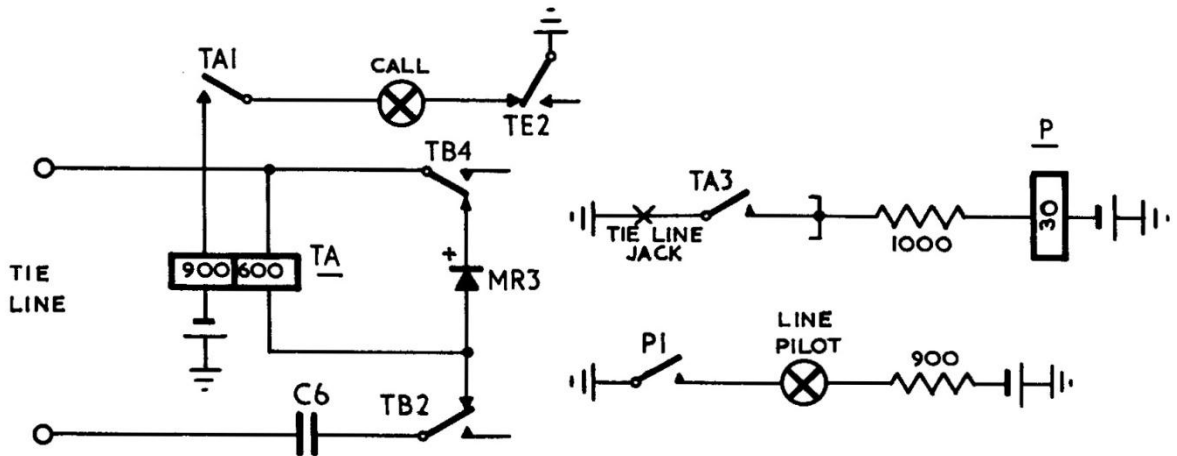

FIG. 20. INCOMING TIE LINE CALL.
7.4 Incoming Tie Line Call. Incoming ring on the tie line circuit operates relay TA on its 600Ω winding. TA completes a self holding circuit via the call lamp and extends an earth to operate the pilot relay (Fig. 20). TA2 removes the shunt from the 2000 ohm winding of relay TC.